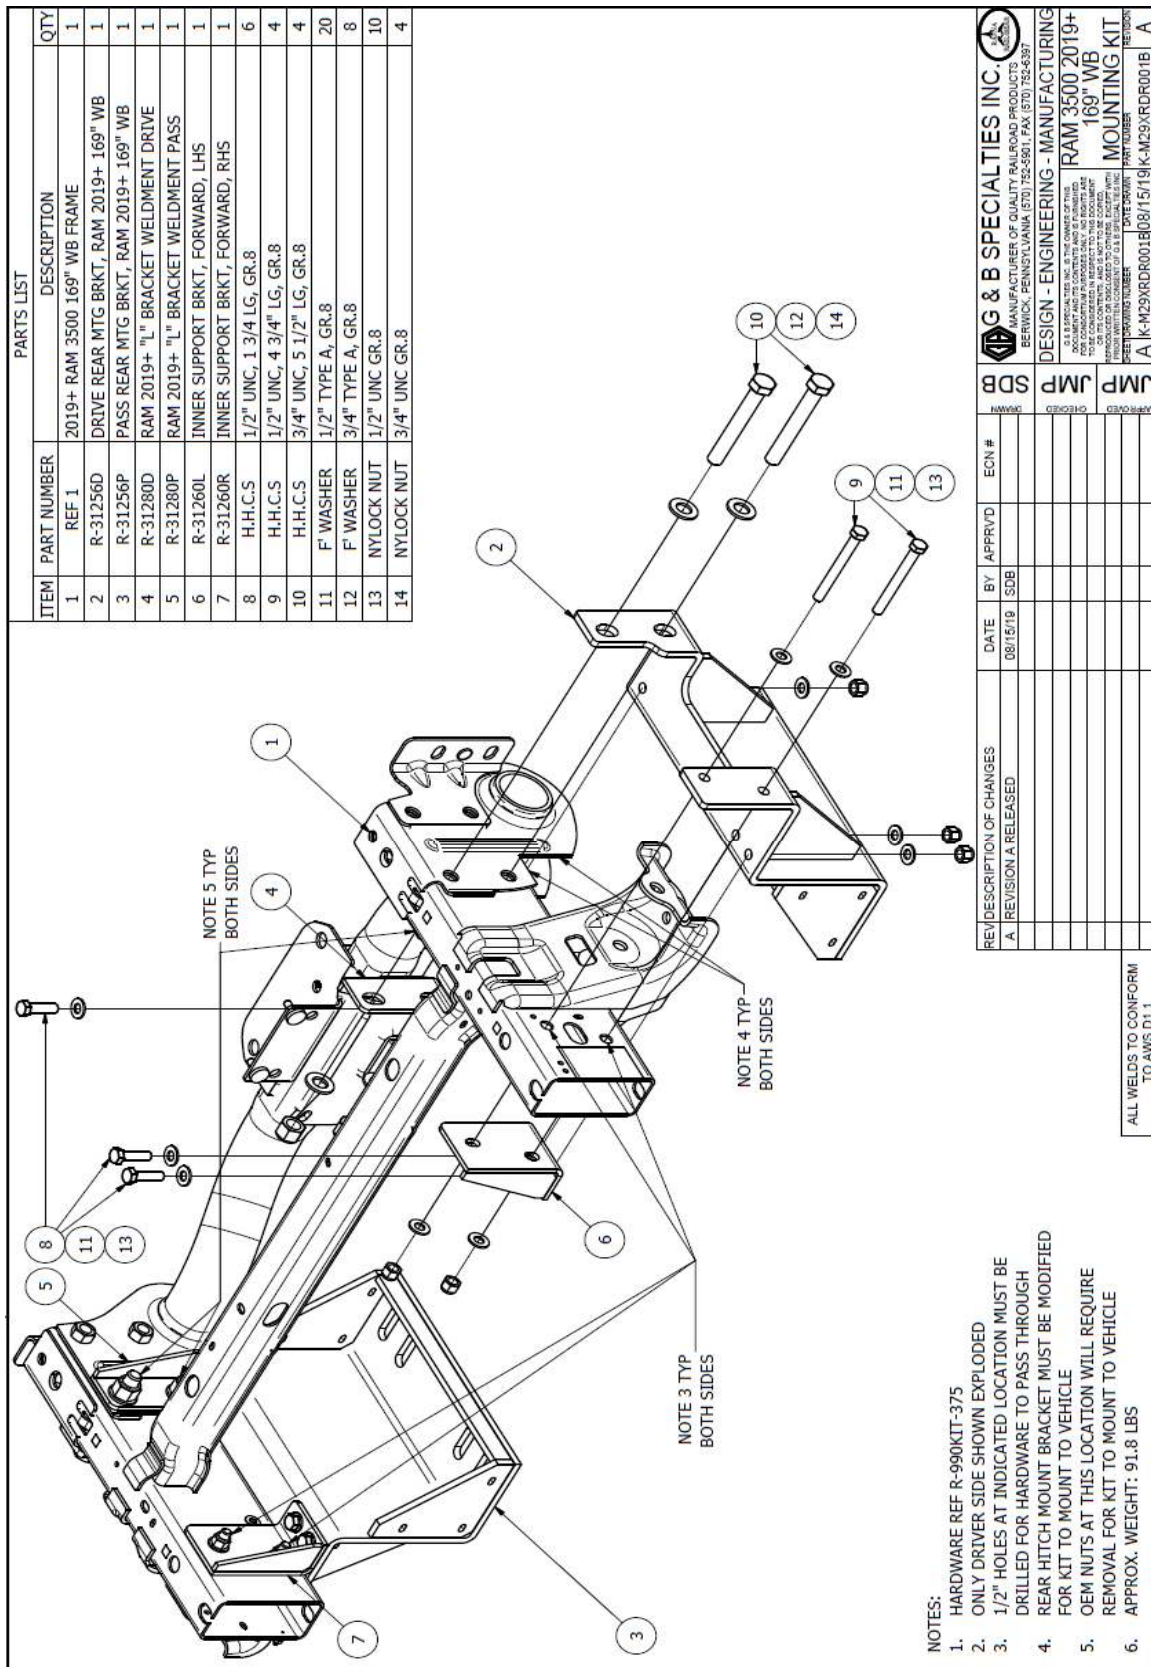

Figure 2: 3500 LB
6. Install the rear mounting bracket as shown using the supplied 3/4" and 1/2" hardware and support bracket as shown. Ensure the mounting bracket is flush with the outside and bottom surface of the frame rail. (Figure 2)
8. Using the holes in the rear mounting bracket as a guide, drill two 17/32" diameter holes thru the inside and outside frame rail. (Figure 2)
9. Complete the installation of the rear mounting bracket using the supplied 1/2" hardware and support bracket. (Figure 2)